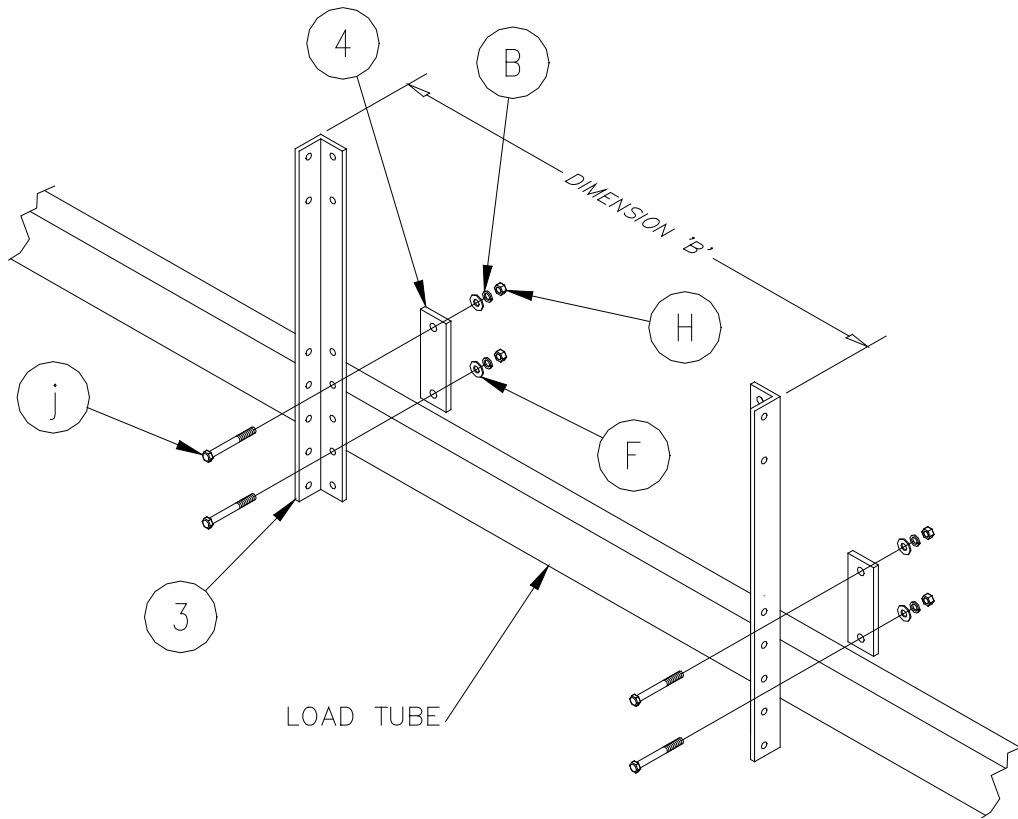

Figure 2-6.
6. **Refer to Figure 2-6.** Fasten the each guide-on mounting angle to the load tubes using two 3/8-16 HHCS bolts (A), two flat washers (F) , two split-lock washers (B), and two silicon bronze hex nuts (H) supplied. Silicon bronze nuts have been provided to prevent hardware "gall, lock up, or seize" during assembly.